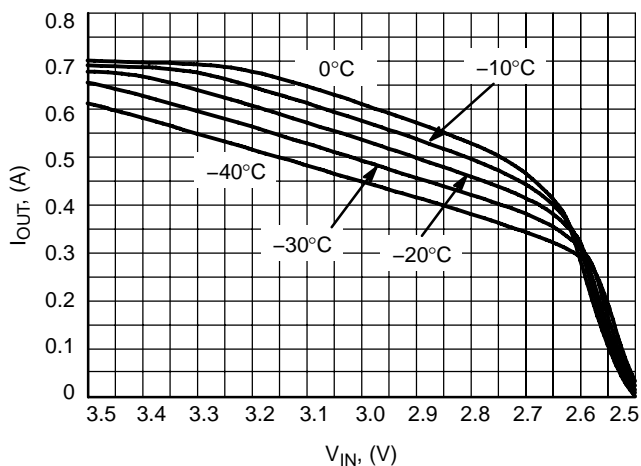

Figure 9. Output Current Capability for the 2.5 V Version
2. For output current capability for $T_J < 0^\circ\text{C}$, please refer to Figure 9.
8. For output current capability for $T_J < 0^\circ\text{C}$, please refer to Figure 9.